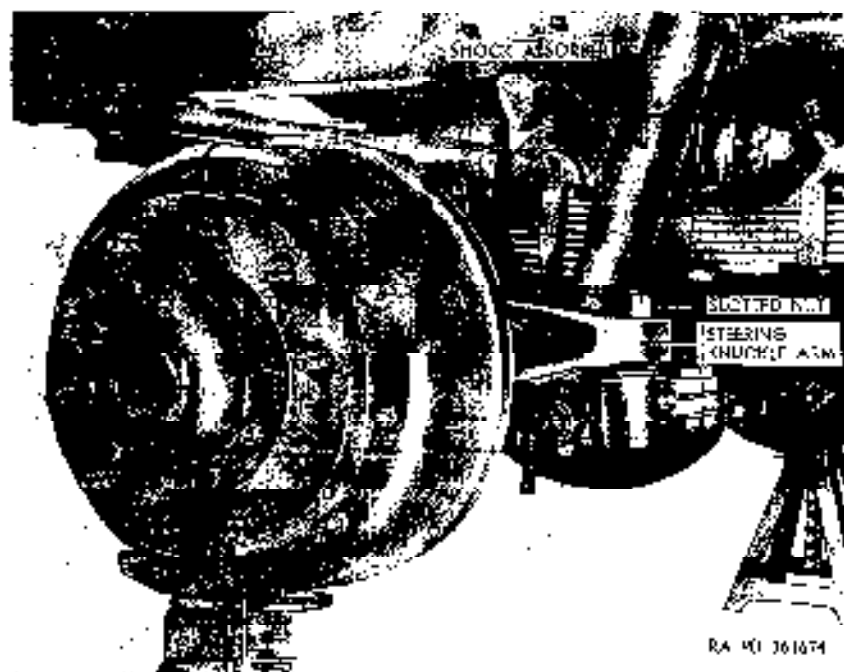

Figure 219. Left end of front axle assembly with wheel and tire removed.
- (1) *Removal* (fig. 219). Place truck on a level surface and apply handbrake. Raise front axle enough to take weight of truck off front wheels. Remove cotter pin and nut from stud at each end of tie rod. Remove tie rod and studs from left and right steering knuckle arms, and remove tie rod assembly from truck.
- (2) *Installation* (fig. 219). Insert tie rod and studs in holes in steering knuckle arms, and install two slotted nuts, one on each stud, and tighten. Install cotter pin in end of each tie rod end stud. Lower front wheels.